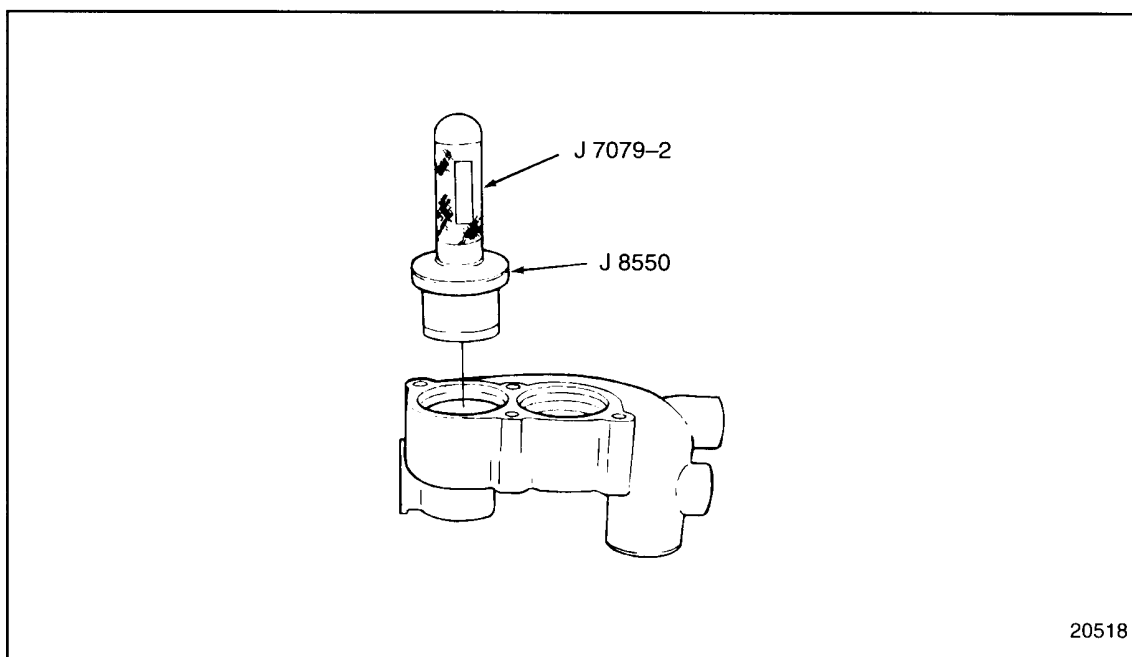

Figure 4-37 Thermostat Housing Seal Insertion
2. Support the thermostat housing on a work bench so that it is level. See Figure 4-37.